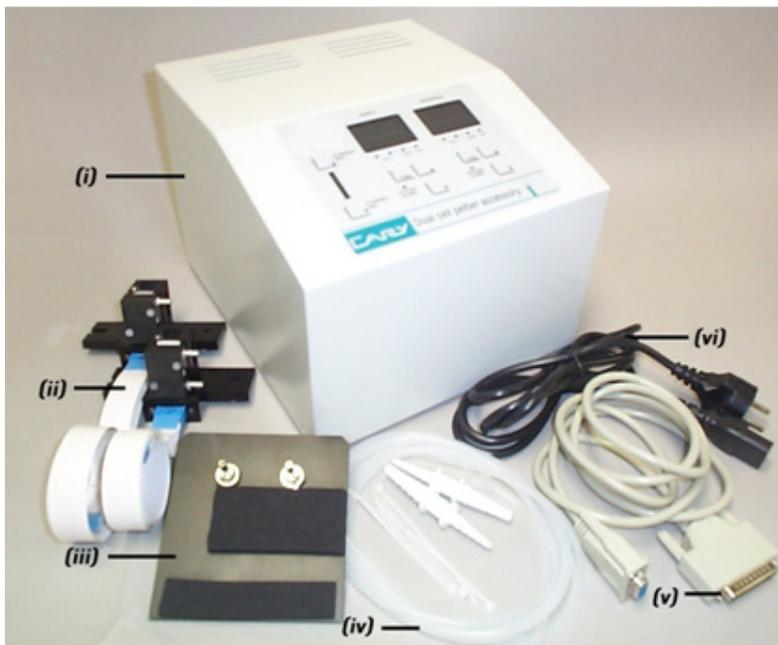
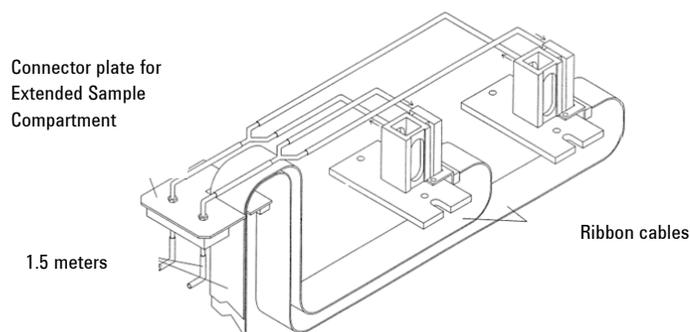

Figure 1 Peltier 1x1 Accessory Parts
Figure 3 The tubing setup for the cell holders
- 5 Assemble the tubing as shown in Figure 3 and connect it to the Peltier cell holders. Direct the tubing under the cell holders to prevent interference with the light path.
The tubing supplied comes in one long piece. This will have to be cut to the appropriate lengths similar to those shown in Figure 3.
- 8 Holding the connector plate (item iii, Figure 1) with the black high density foam facing upwards, slide the ribbon cables through the slit in the plate, as shown in Figure 3. Connect the free ends of the tubing assembly to the elbow connectors present in the plate. Check that the foam on the connector plate does not extend too far over the edges. If it does, it will need to be cut back so the plate slides easily into the compartment.
- 1 Attach the 25-pin end of the RS232 cable (item v, figure 1) to the 1 x 1 Peltier.